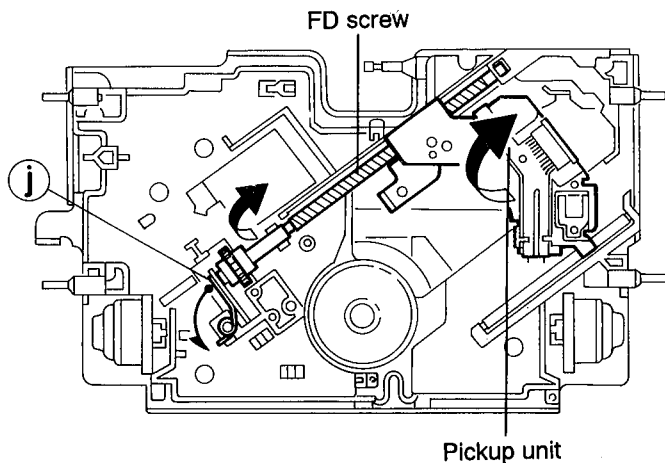

Fig. 4-21
7. While pressing and expanding the spring section ① holding the FD screw in the arrow direction, remove the FD screw and dismount the pickup unit (See Fig. 4-21).